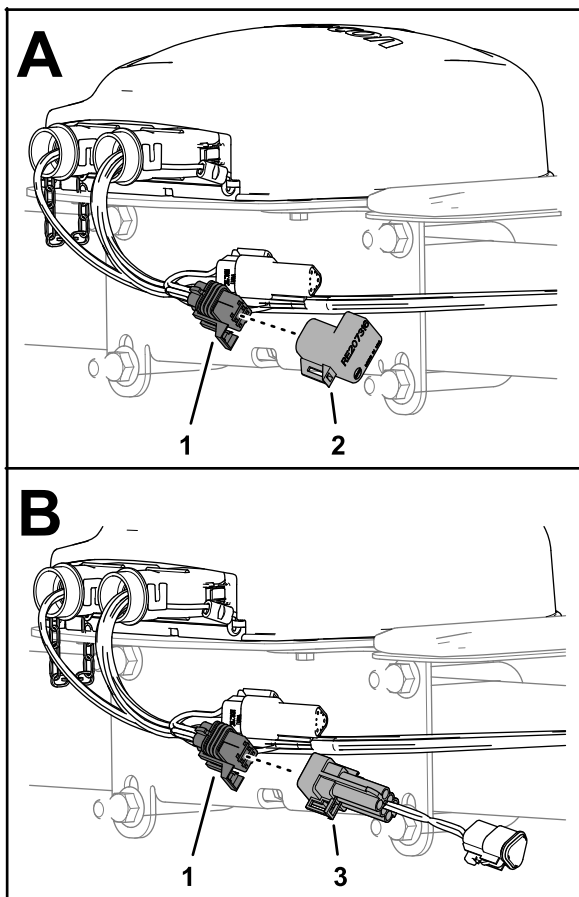

Figure 177
1. At the satellite receiver, remove the ISO bus terminator for the 6-socket connector of the GeoLink harness (Figure 177).
2. Plug the 6-pin connector of the adapter harness—13 cm (5 inches) into the 6-socket connector of the GeoLink harness (Figure 177).